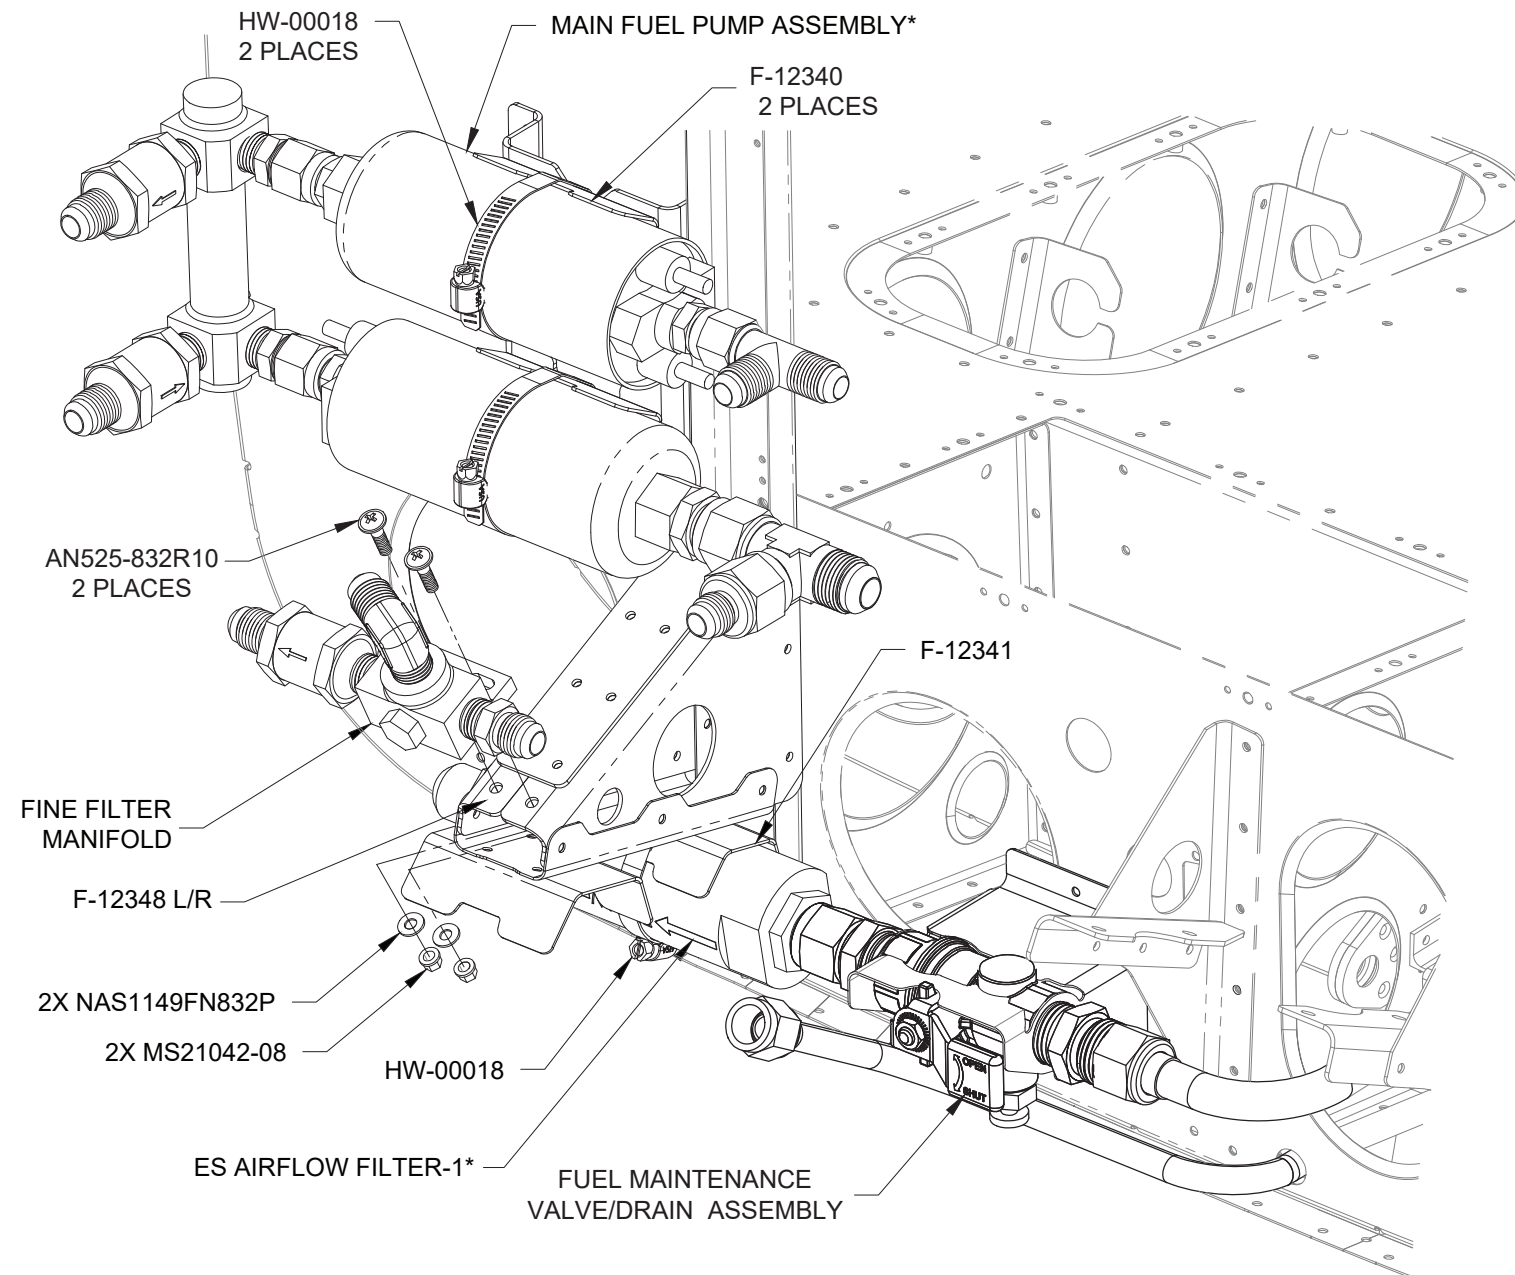

FIGURE 1: FUEL DRAIN, PUMP AND FILTER INSTALLATION
Step 4: Attach the ES AIRFLOW FILTER ASSEMBLY* to the Fuel Maintenance Valve/Drain Assembly as shown in Figure 1. Tighten the nut, then tighten the HW-00018 clamp until filter cannot move.